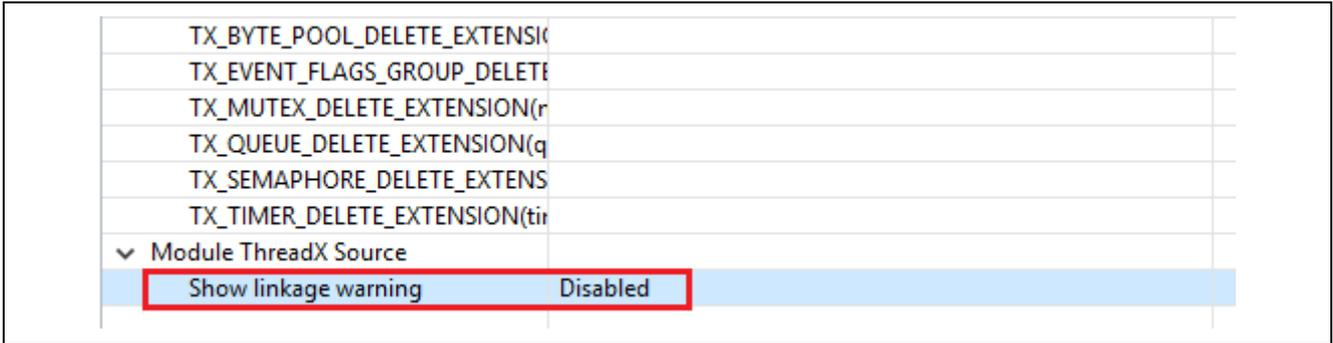

Figure 10 Disabling the Linkage Warning Error
3. Disable the **Show linkage warning** shown in Figure 10 (e² studio v6.2.0 or later).